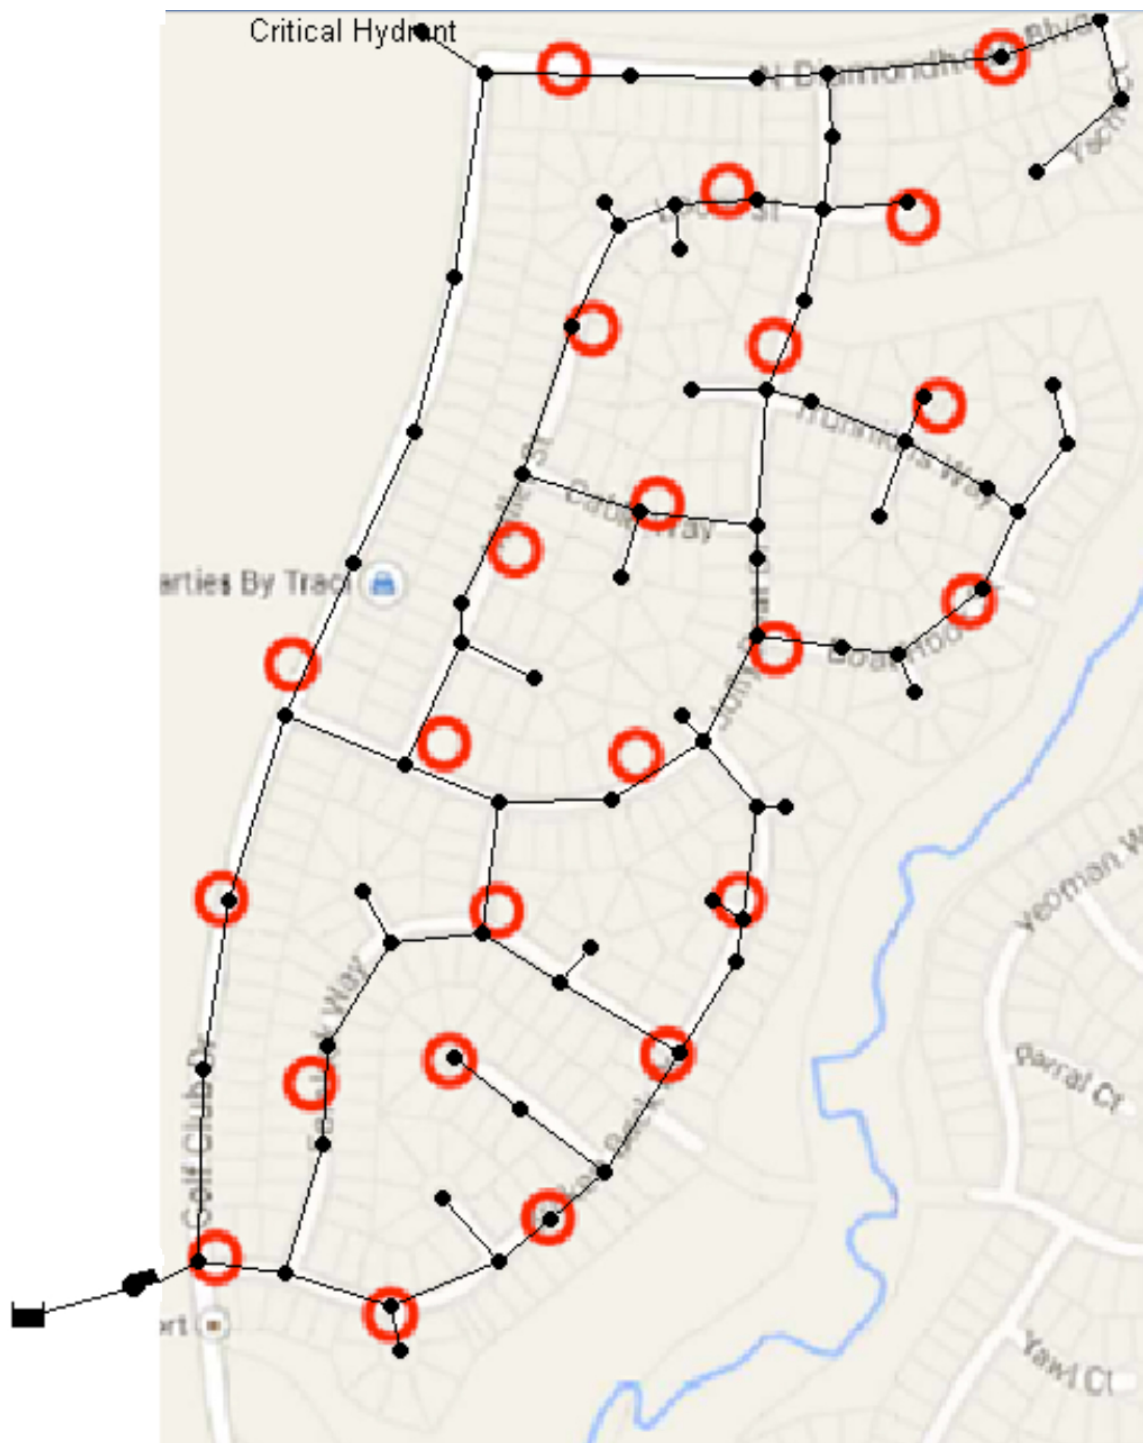

Figure 1: Newport Subdivision EPANET Model Pipe Layout
1. Figure 1 is a skeletonized layout for a network model of the water distribution system. Each small black circle is a distribution node that serves several lots. Each red circle represents a fire-hydrant location. Water is supplied by the lift station depicted in the lower left corner of the drawing.